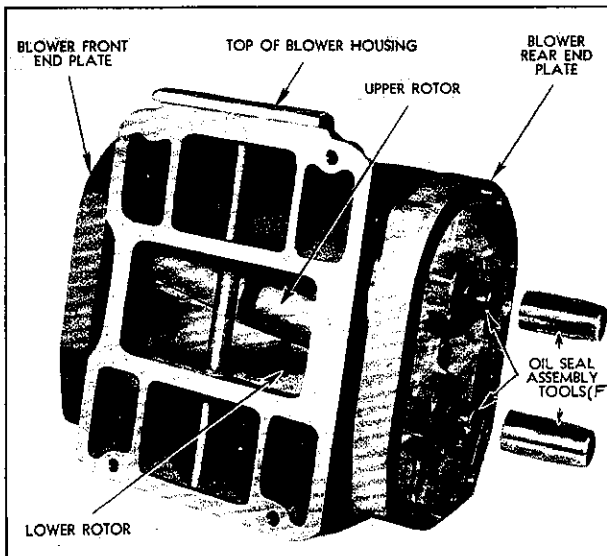

Fig. 14—Installing Blower Rear End Plate.
5. **Install Blower Rear End Plate.** With rotors positioned in housing as per item (4) above:
(a) Install one oil seal pilot (F) over serrated end of each rotor shaft. (See Fig. 14.)